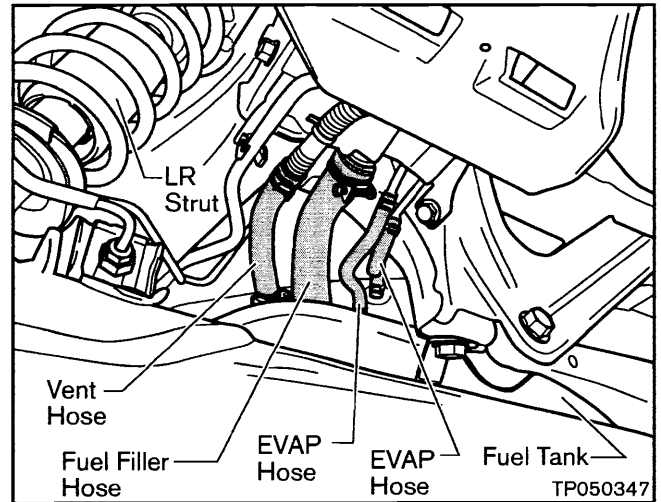

Figure 8
6. Disconnect the following Fuel Tank Hoses from the vehicle (leave them connected to the Tank). See Figure 8.